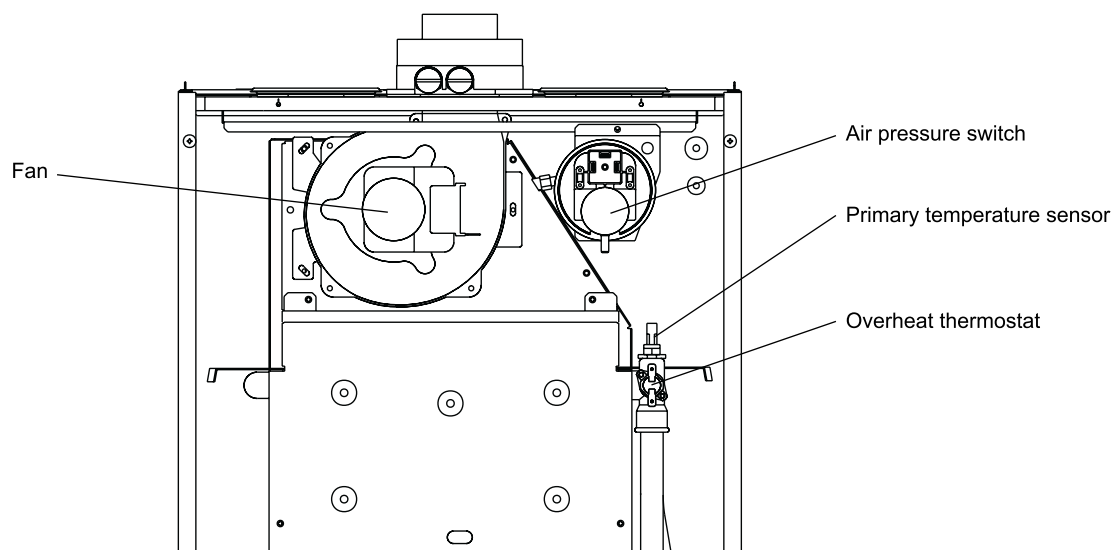

Fig. 19
8.7 FAN - Fig. 19
8.8 AIR PRESSURE SWITCH - Fig. 19
8.9 OVERHEAT THERMOSTAT - Fig. 19